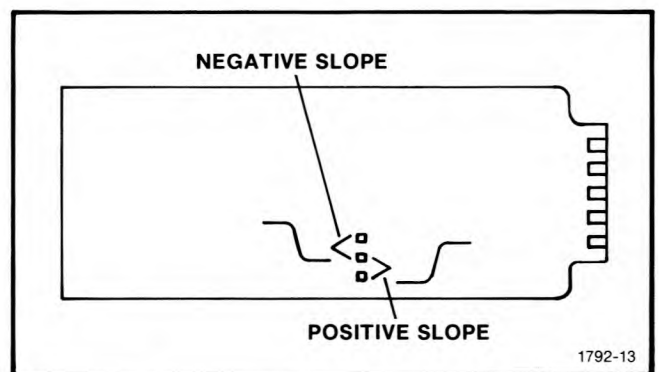

Fig. 4-14. X-Y Output Module Connection Link.
3. Place the terminal connection link of the OUTPUT MODULE board on the negative slope terminals (see Fig. 4-14).